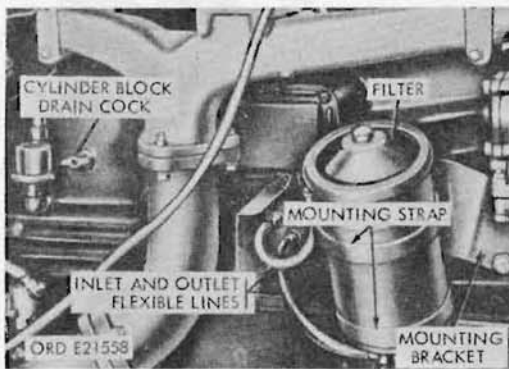
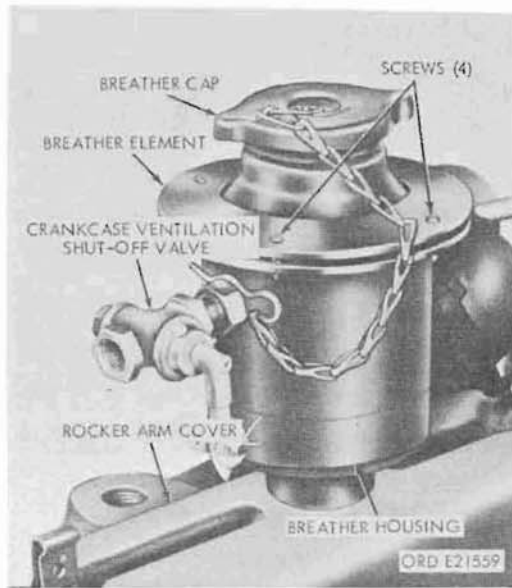

Figure 90. Oil filter disconnect points
Figure 91. Crankcase breather
(1) Removal.
- (b) Disconnect the oil filter inlet and outlet flexible lines from the filter fittings (fig. 90).
(2) Installation.
- (d) Fill the filter with oil (a (3) above).
- (e) Start the engine and check for oil leaks (a (4) above).
- (b) Remove the oil filter inlet and outlet lines from the elbows on the oil filter (fig. 90).
- (c) Fill filter with oil (a (3) above).
- (d) Start the engine and check for oil leaks (a (4) above).
a. General. The crankcase breather and element (fig. 91) should be removed, cleaned, and reinstalled at each oil engine change.
- (1) Remove the breather cap. Unscrew four screws holding the breather element in the housing and lift the element from the breather housing (fig. 91).
- (2) Disconnect the valve control wire from the crankcase ventilation shutoff valve, if present, at the rear of the breather housing.
- (3) The breather housing is secured to the rocker arm cover by a central holding screw. Back off this screw